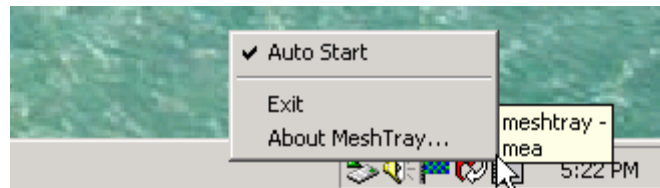

Figure 64. Exit MeshTray
2. Right-click on the MeshTray icon and select **Exit** as shown in Figure 64.